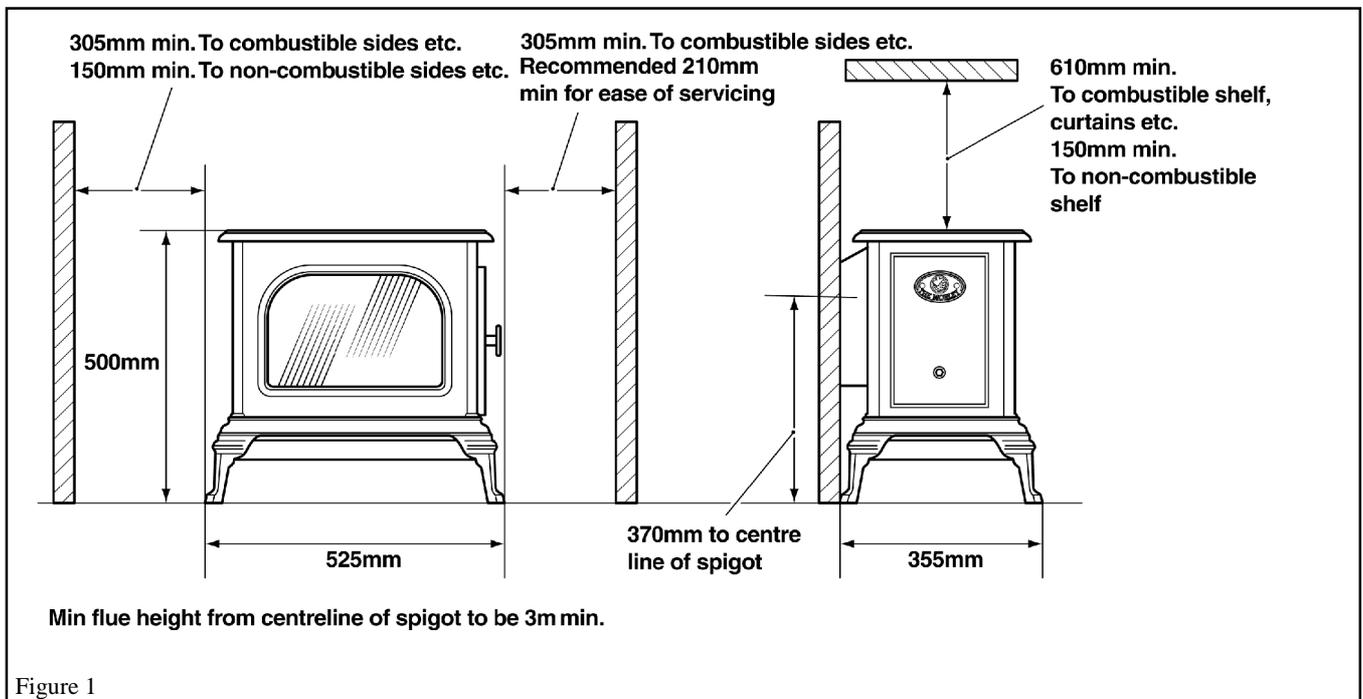
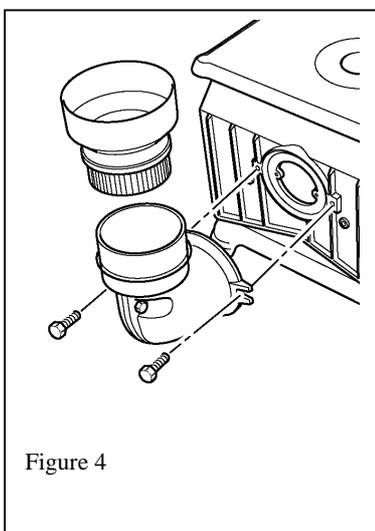

Figure 1
Figure 4
The stove dimensions are shown in figure 1
Clearances from combustible and non-combustible materials must be at least those shown in figure 1
4. Place the stove in position on the hearth ensuring that the minimum dimensions specified in figure 1 are adhered to. Position the stove so that the spigot passes through the hole in the closure plate and the decorative plate is flat against the rear surface of the fireplace. Each of the stove feet has height adjustment screws to accommodate uneven surfaces. Ensure that the stove is level.
1. Connect the cast iron elbow using the two screws located to the side of the flue outlet (see Figure 4)
3. Place the stove in position on the hearth ensuring that the minimum dimensions specified in figure 1 are adhered to. Connect the flue pipe to the outlet and seal in place. The optional flue adapter is shown in figure 4.